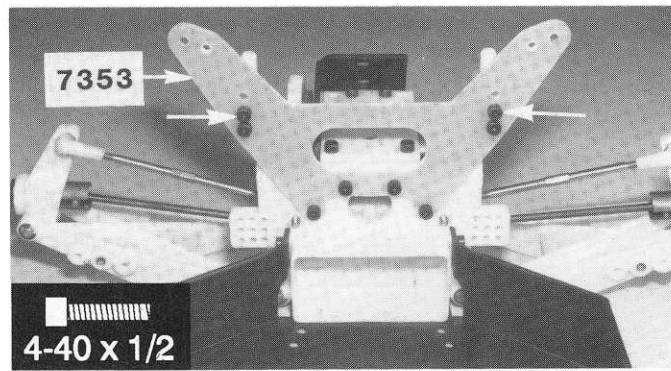

**Fig. 102**
□ **Fig. 102** From Bag 7-5 take out the two #7323 rear body mounts. Your body mounts will look just a little different than these. Mount the round part of the mount to the base with a 4/40 x 1/4" SHCS screw, as shown. Do both of them. Body clip holes should point to the left and right.